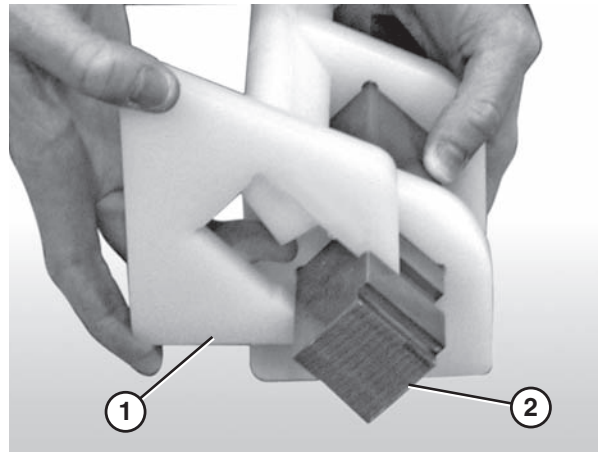

Figure 66
3. Attach the nose bar tracking pucks (**Figure 66, item 1**) to the nose bar drive post (**Figure 66, item 2**).